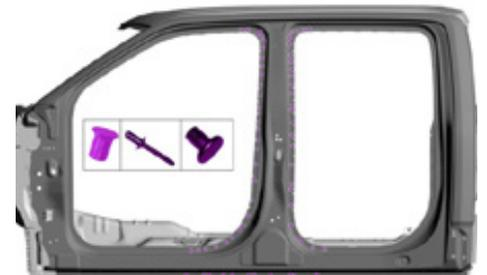

Figure 3
7. Using the SPR remover/installer and blind rivet gun, install the fasteners. **(Figure 3)**